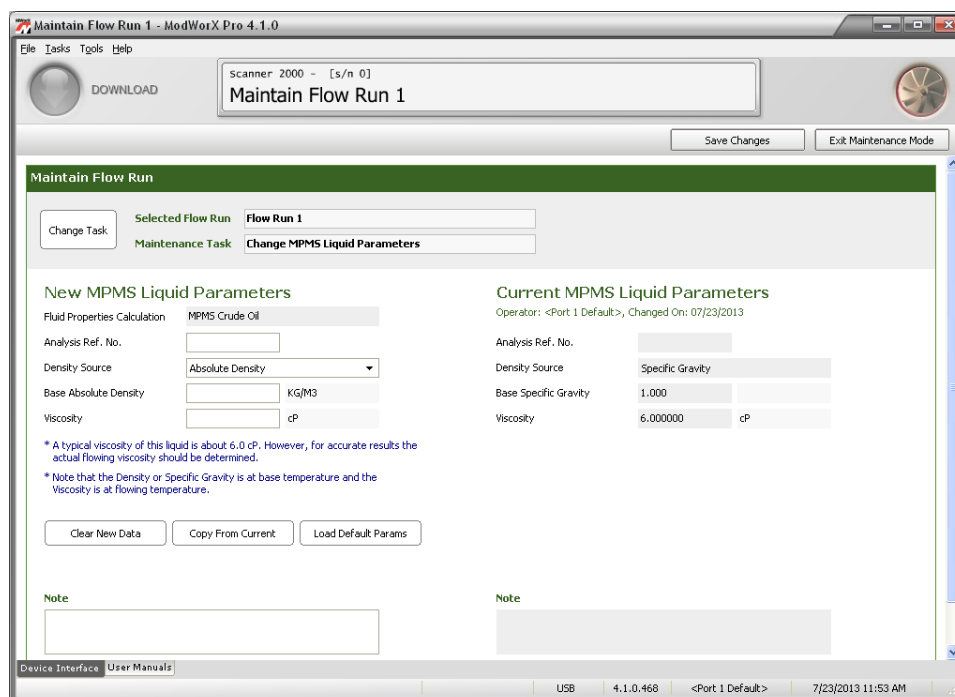

Figure 10.15
- b. Click **OK** to save the settings and return to the Maintain Flow Run screen (Figure 10.15, page 151).